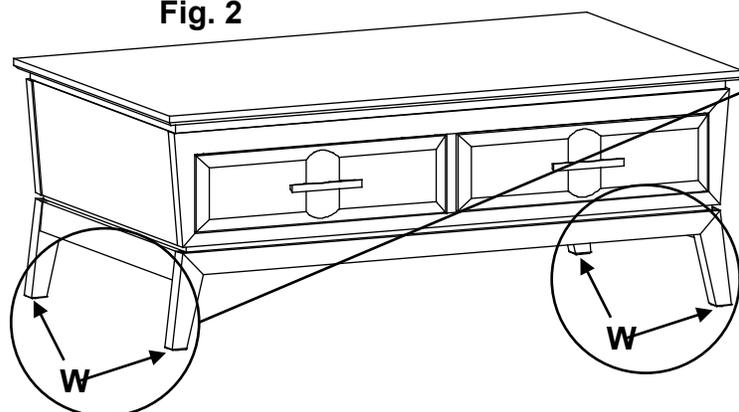

Fig. 2
2. Firmly hold the lift top closed and turn the table upright. Place the unit at its final destination. Use the Leveler Adjustment Key (X), found in the Zip bag taped to the Owner's Manual and Safety Guide to rotate the Slotted Levelers (W) on the bottoms of the legs until the unit is level. See Figures 2 and 2a.